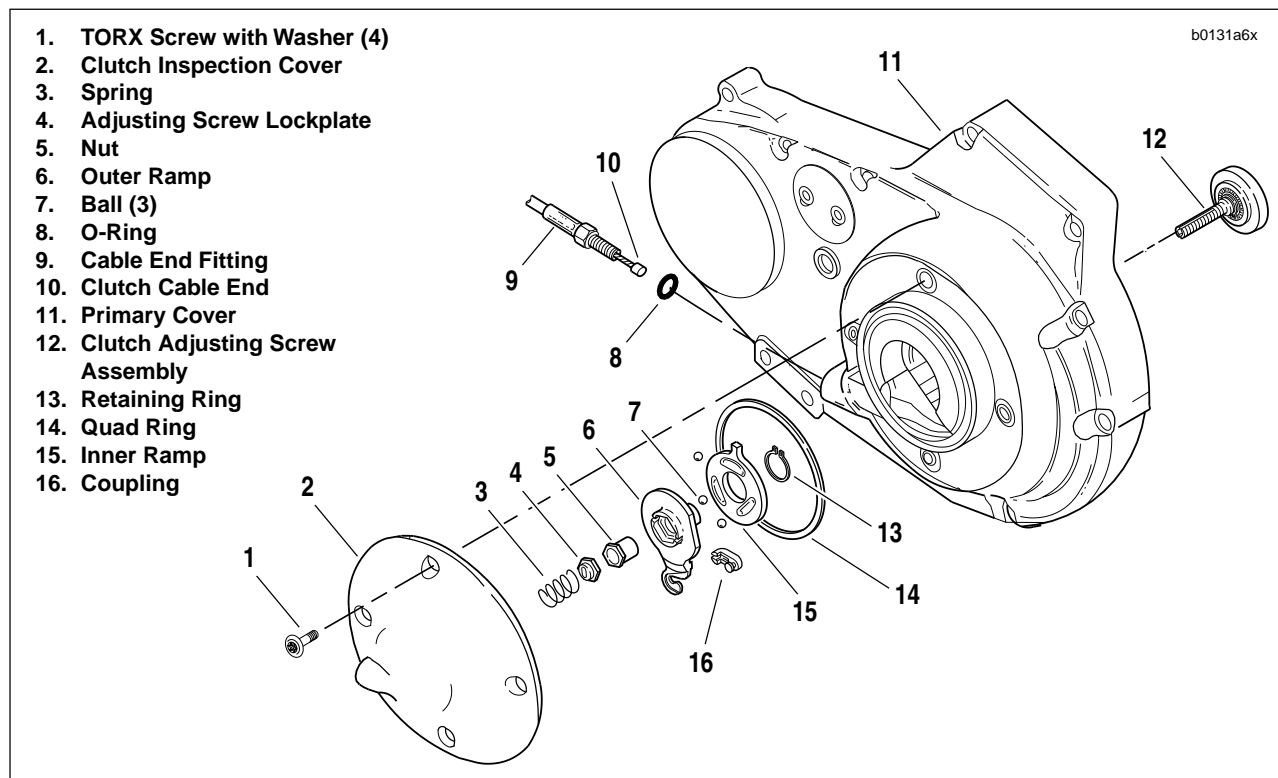
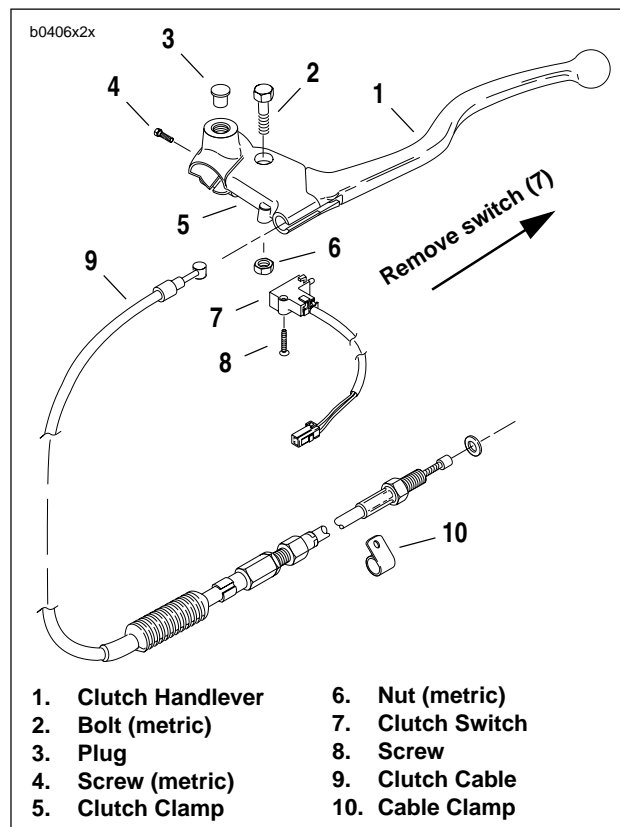
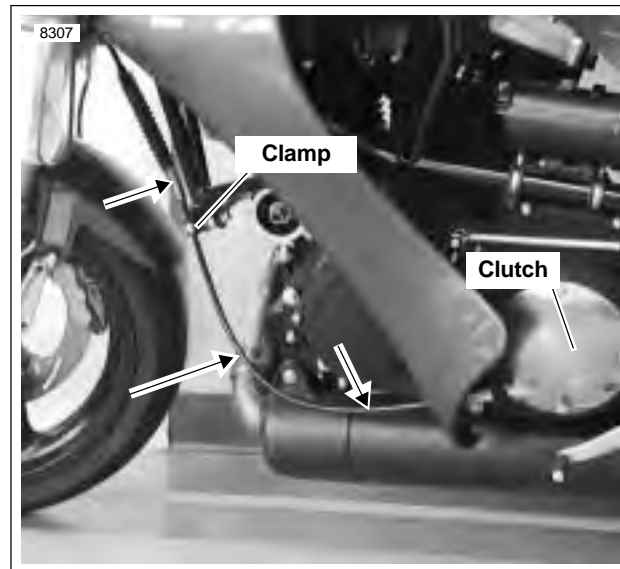

Figure 2-83. Clutch Release Mechanism
Figure 2-84. Clutch Hand Control
Figure 2-85. Clutch Cable Routing, Lower
2. See Figure 2-83. Remove four TORX screws (1) with washers and clutch inspection cover (2). Do not damage or dislodge quad ring (14) in primary cover (11).
3. Slide spring (3) with attached hex lockplate (4) from flats of adjusting screw (12).
4. Turn adjusting screw clockwise to release ramp and coupling mechanism. As the adjusting screw is turned, ramp assembly moves forward. Unscrew nut (5) from end of adjusting screw.
5. Remove hook of ramp (6) from button at the rear of cable end coupling (16). Remove cable end (10) from slot in coupling.
6. Turn cable end fitting (9) counterclockwise to remove clutch cable lower section from primary cover (11). Remove O-ring (8) from cable end fitting.
1. See Figure 2-84. Detach clutch switch (7).
- a. Remove screw (8).
- See Figure 2-83. Install O-ring (8) over cable end fitting (9) of clutch cable lower section. Turn fitting clockwise to install into primary cover (11). Tighten to 3-7 ft-lbs (4-12 Nm).
- Fit coupling (16) over cable end. Place hook of ramp around coupling button and rotate assembly counter-clockwise until tang on inner ramp (15) fits in slot of primary cover (11).
- Thread nut (5) on adjusting screw (12) until slot of screw is accessible with a screwdriver. Fit nut hex into recess of outer ramp (6) and turn adjusting screw counter-clockwise.
- See Figure 2-85. Route cable along left side of primary chaincase and up through clamp on front isolator tie bar.
- See Figure 2-84. Attach clutch clamp (5) as follows.
- Place clamp next to switchgear housing. Fasten to handlebar with screw (4) (metric). Tighten to 30-35 in-lbs (3-4 Nm).
- Apply small amount of LOCTITE ANTI-SEIZE LUBRICANT to bolt (2). Attach handlebar with bolt (2) (metric) and nut (6) (metric).
- Attach clutch switch (7) with screw (8).
- See Figure 2-85. Route cable down left side of bike, through clamp, along primary chaincase to clutch.